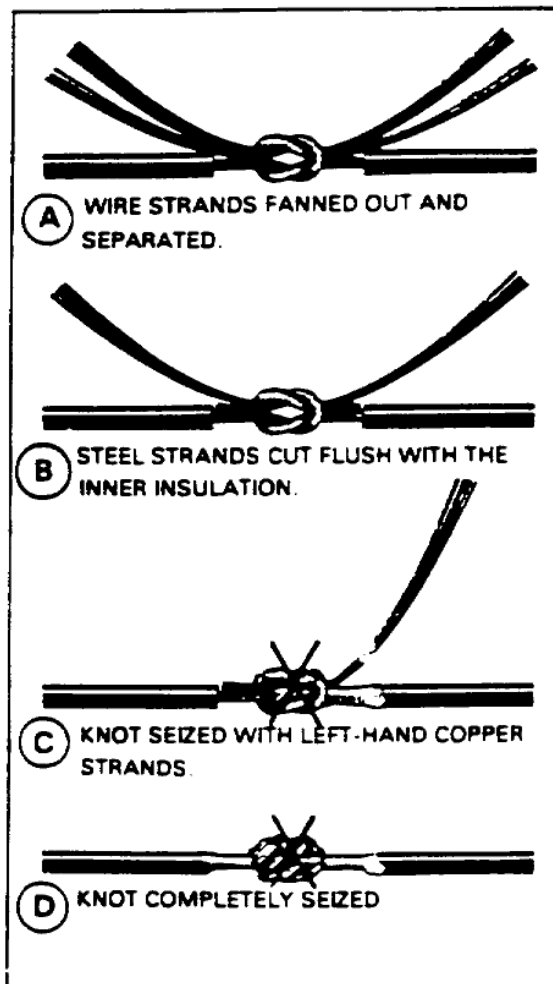

Figure 6-18. Square knot without seizing wire.
□ When seizing wire is not available, use the copper strands of the conductor to seize the square knot. After the knot has been tied and pulled tight, remove the 2-inch section of the insulation and separate the three steel strands from the copper strands (A, figure 6-18). (Copper strands will remain bent when
flexed.) Cut the steel strands flush with the ends of the insulation (B, figure 6-18). Form "X" over square knot with copper strands. Cross the left-hand end of the copper strands over the right side of the square knot (C, figure 6-18). Wrap several tight turns over the bared portion of the right-hand conductor from edge of knot. Continue wrapping until at least two turns have been made on the insulation. Cut the excess ends of the copper strands. Repeat the seizing operation with the right-hand end of the copper strands; again cross over the crest of the square knot and wrap two turns on the insulation of the left-hand conductor.